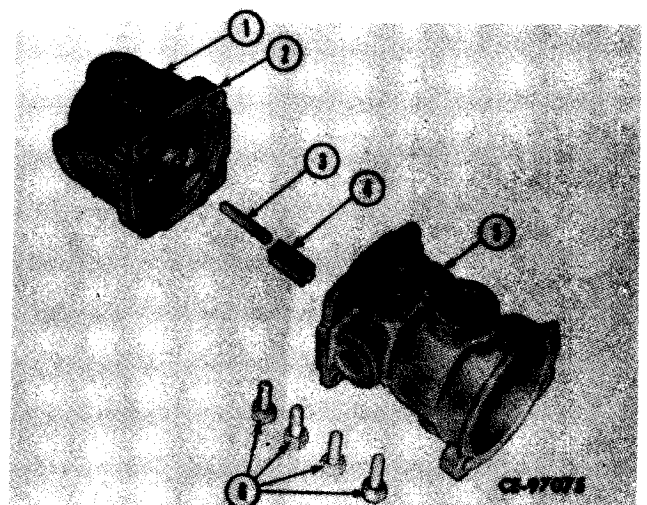

Figure 13-35
Punch mark upper and lower body for assembly reference. After removing cap screws (6, Fig. 13-35) separate upper valve body (5) from cover (2) and lower valve body (1). Remove push rod (3) and push rod guide (4).